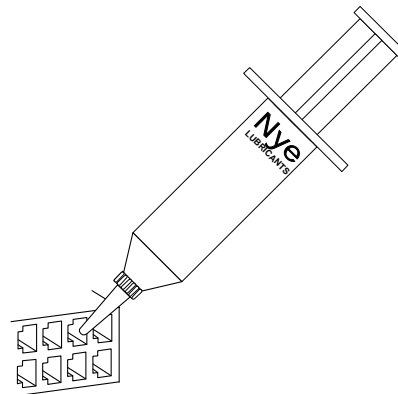

Figure 2
4. **Lubricate** each terminal using Nye® 760G lubricant as shown in figure 2. Apply enough lubricant to each terminal opening to completely fill each opening to a depth of .125" minimum.